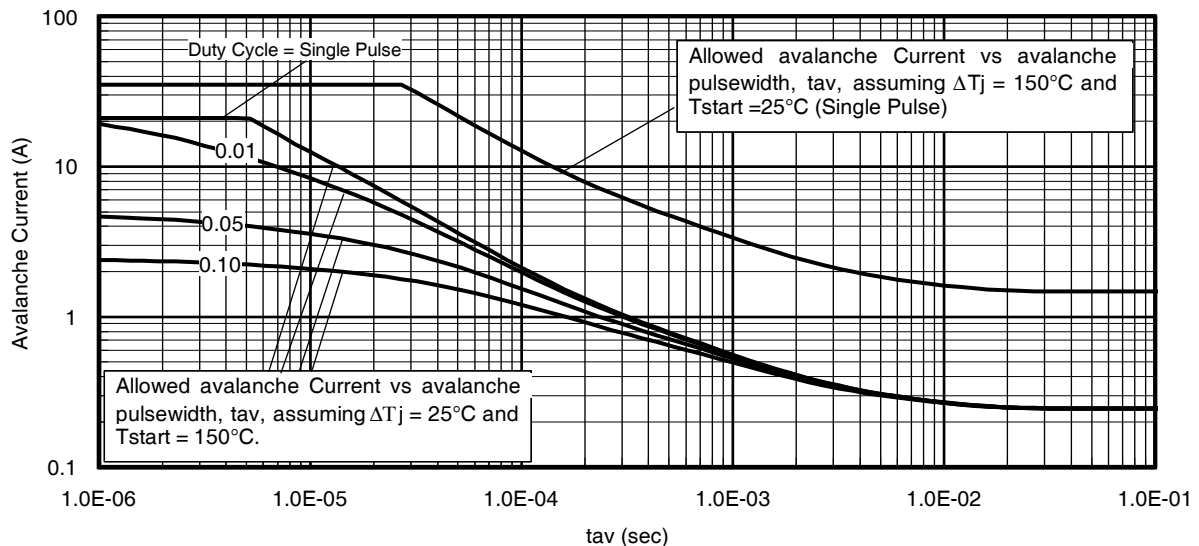

Fig 14. Typical Avalanche Current Vs. Pulsewidth
| I_{AR} | Avalanche Current ⑤ | See Fig. 14, 15, 17a, 17b | | A |
- ① Repetitive rating; pulse width limited by max. junction temperature. ④ $R_{\theta J}$ is measured at T_J of approximately 90°C .
② Starting $T_J = 25^\circ\text{C}$, $L = 0.51mH$, $R_G = 25\Omega$, $I_{AS} = 21A$. ⑤ Limited by T_{jmax} . See Figs. 14, 15, 17a, 17b for repetitive avalanche information
③ Pulse width $\leq 400\mu s$; duty cycle $\leq 2\%$.
Notes on Repetitive Avalanche Curves , Figures 14, 15:
7. ΔT = Allowable rise in junction temperature, not to exceed T_{jmax} (assumed as 25°C in Figure 14, 15).